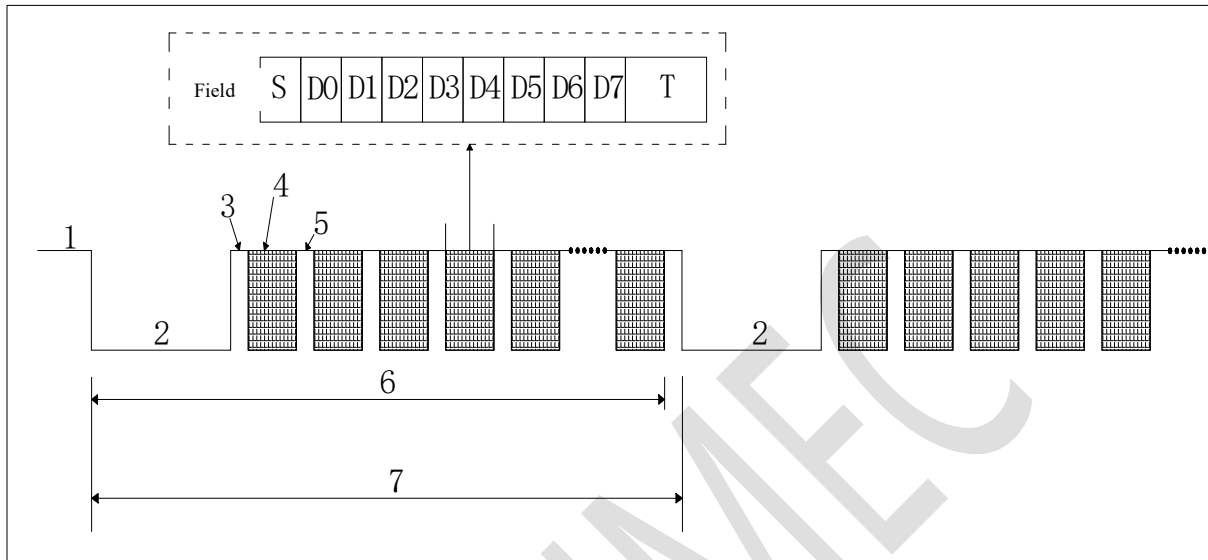

Figure 5
3. Application Figure 5: Application of External Transistor